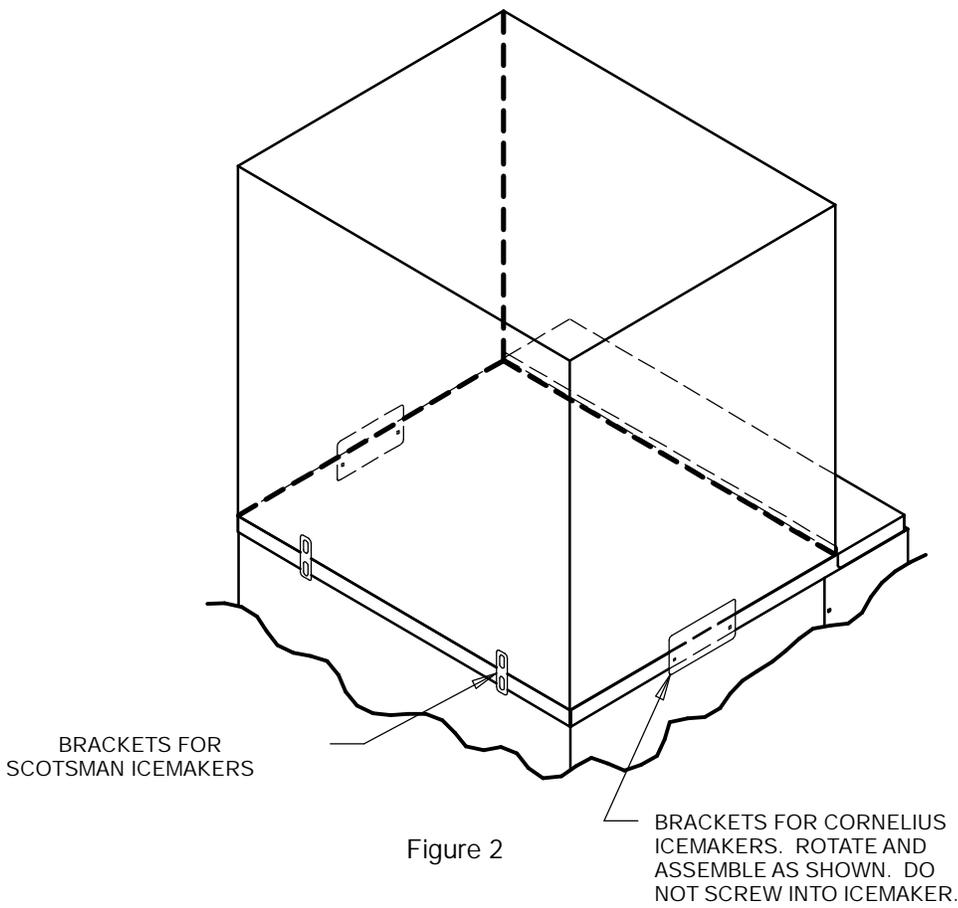

Figure 2
3. Secure the ice maker to the dispenser with the mounting brackets and screws provided. See Figure 2.